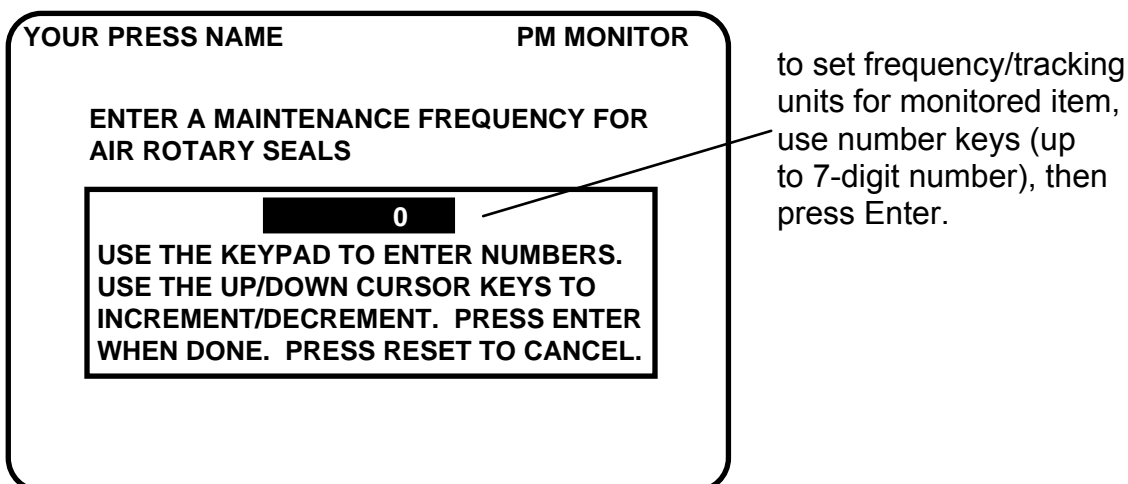

Figure A-11. Superimposed number display
6. If you want to change the frequency value on a given PM item, first highlight that item, press the designated function key, and enter the PM password. The number display will be superimposed over the screen (similar to Figure A-11). Use the number keys or cursor keys to modify the tracking frequency for that PM item.